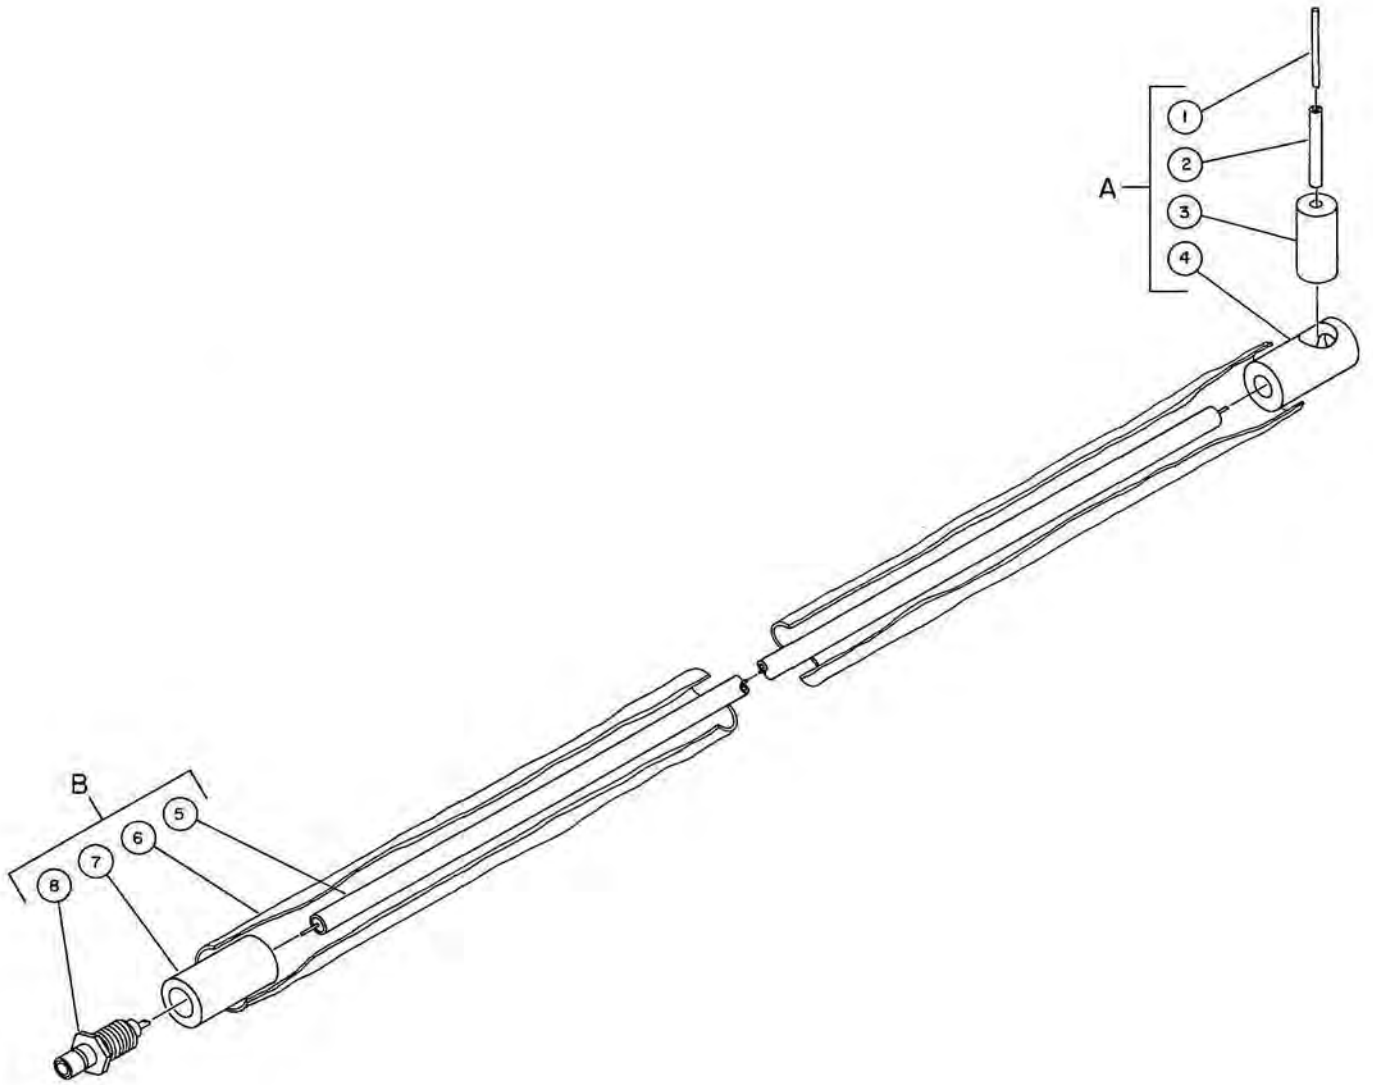

Figure B-3 Sniffer Cable Construction
8. Shrink-fit heat shrink tubing (6) around probe head (4), probe end (7), and coax (5) as shown in Figure B-3.